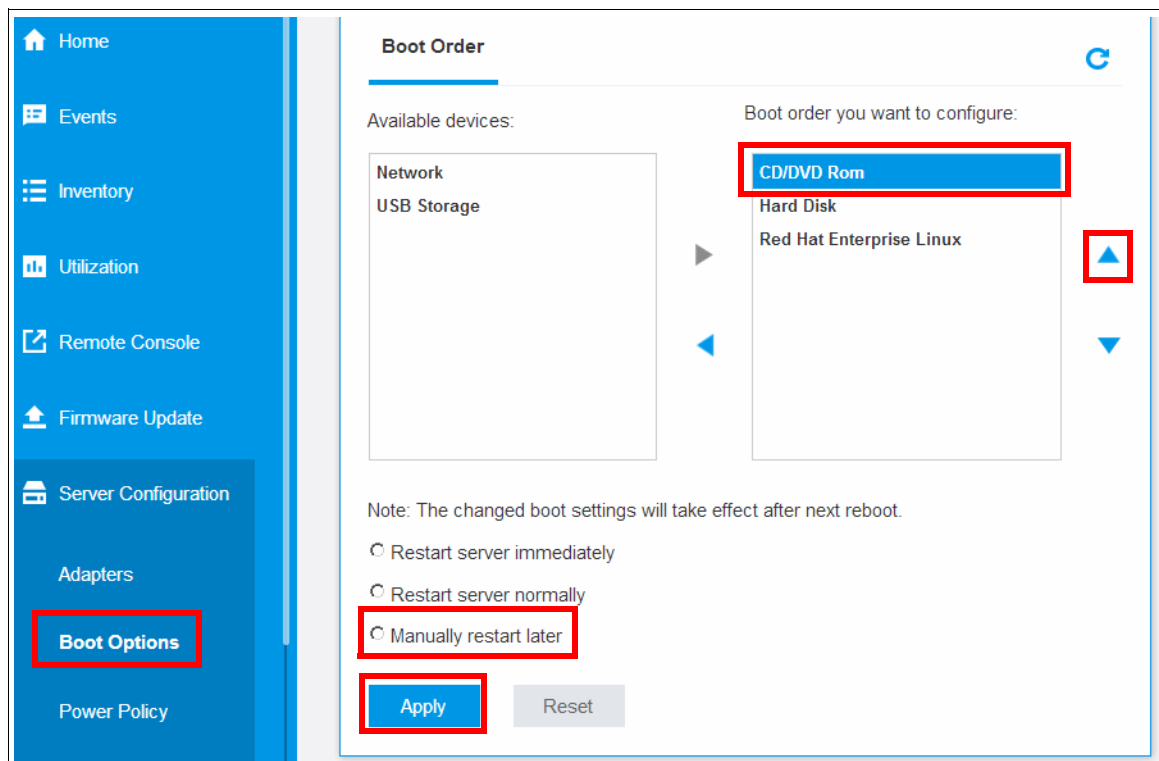

Figure 6-2 XCC boot options - boot from CD/DVD for remote ISO mount
4. Click on the arrows to move the CD/DVD ROM option to the top of the menu, as shown in Figure 6-2 on page 186.